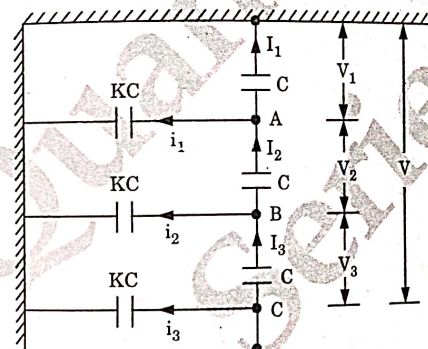

Fig. 3.17.1.
1. The equivalent circuit of string insulators is shown in Fig. 3.17.1.